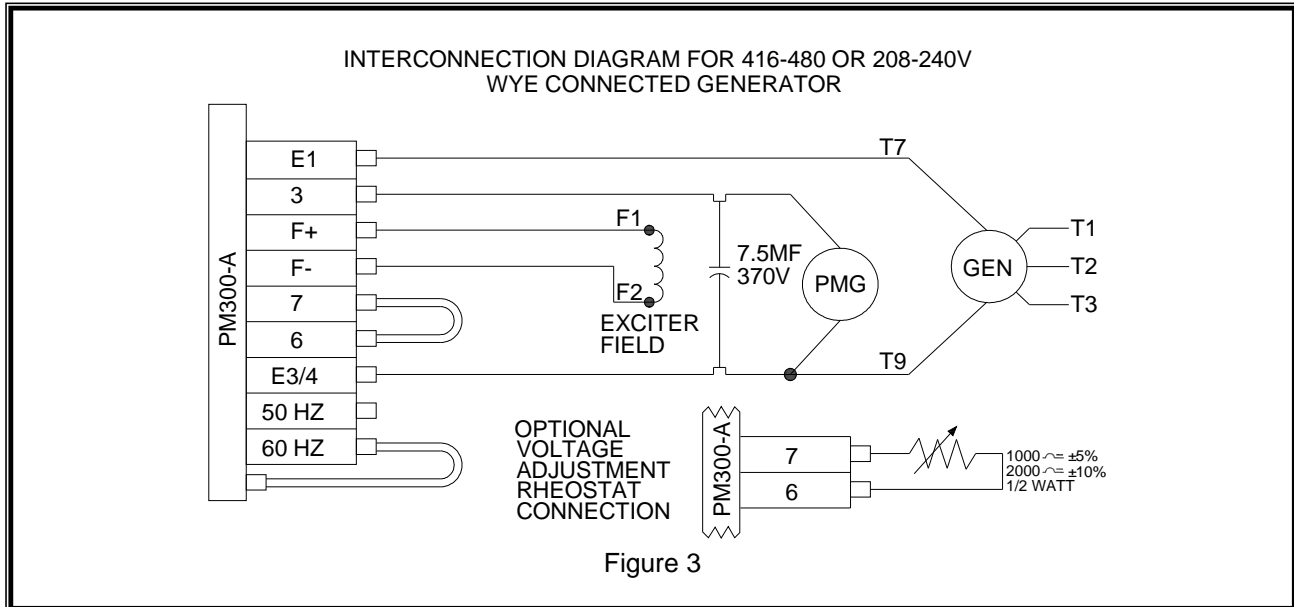

Figure 3
- When using a remote voltage adjust rheostat, remove the jumper wire across terminals 6 and 7 and install a 2000 ohm 1/2 watt (minimum) rheostat. (See Figure 3). This will give $\pm 10\%$ voltage variation from the nominal. (For $\pm 5\%$ voltage variation use a 1000 ohm 1/2 watt rheostat).
- There are two small jumpers on the regulator. (See Figure 3).